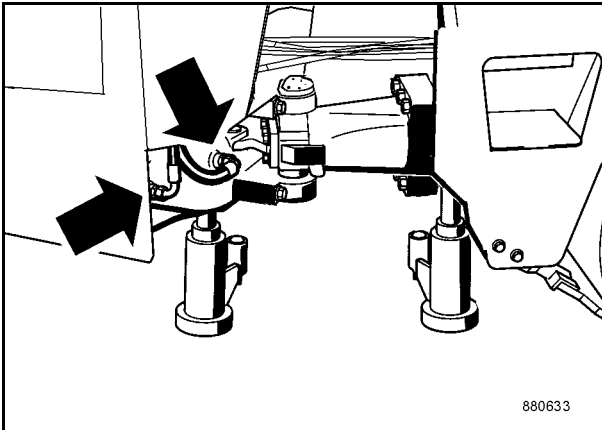

Fig. 1
1. Support the front and rear frames of the machine safely with jacks (Fig. 1).